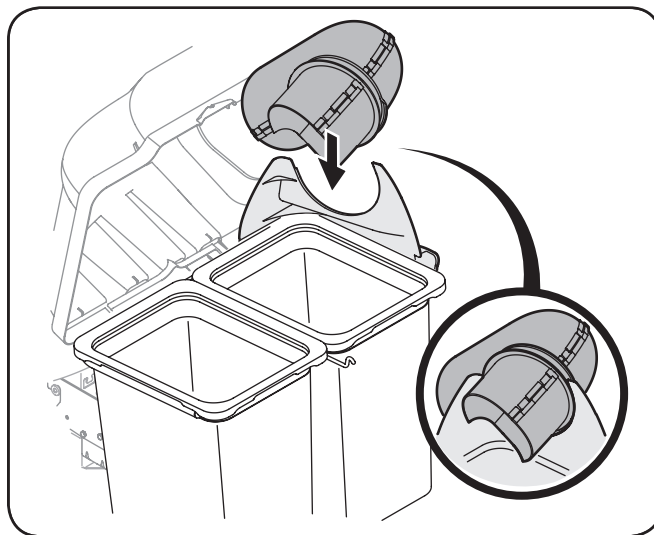

Figure 4-25
14. With the bagger cover open, install the upper chute over the chute adapter, and rest the top so that the chute support sits in the upper chute groove. See Fig. 4-25.